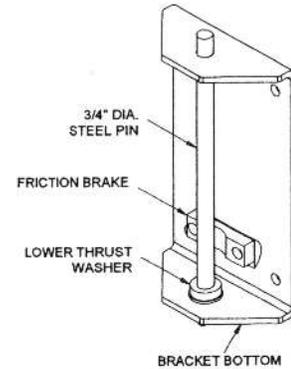

Figure 6
2. Take the mounting plate and remove the steel, pivot rod by removing the small bolt and nut on the bottom of the rod. Please note that the mounting plate has a brown friction pad. This pad will assist you in telling top from bottom of the mounting plate. The friction pad and rod with bolt is the bottom of the bracket. Be sure to mount bracket as such. See figure 6.
4. Mount the first half of the boom arm with the groove on the bottom to the wall bracket. You should have noticed a flat washer and thick, steel thrust washer on the steel pivot rod when you removed the rod from the wall bracket. Be sure these thrust washers are installed on the underside of the boom. See figure 6. Slide pivot rod into the top of the mounting bracket and into the bearing on the boom and through the thrust washers and into the bottom of the mounting bracket. The rod has flat sides and the mounting bracket has matching flat sides. Be sure the rod slips completely into the flat sides. Install the small bolts and nuts and tighten snugly.